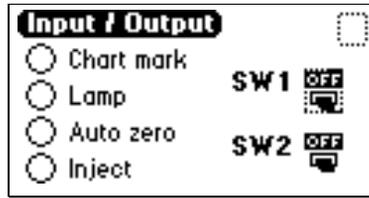

Figure 5-9 Contact Closures & Events Diagnostic
1. From the Input & Output choice list, press **4, Contact closures & events**, to monitor the four contact closure inputs and to control the two switch outputs (Figure 5-9).